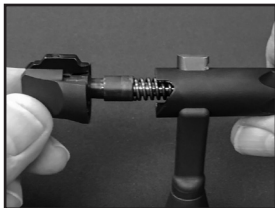

Figure 29-3
3. The firing pin assembly can now be removed (Figure 29-3).